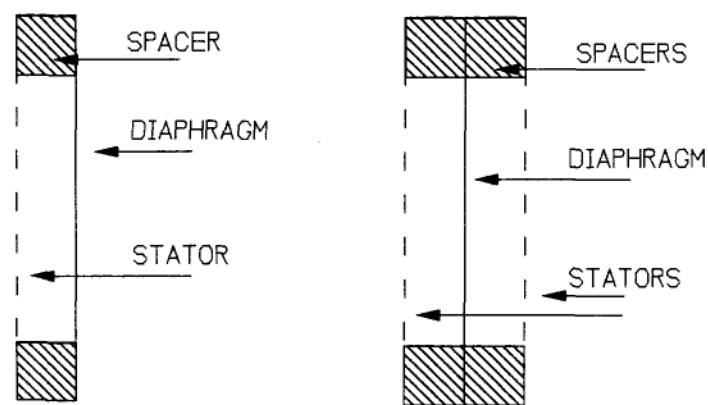

FIGURE 3-1: Single-ended ESL.
**CELLS & PANELS.** When sandwiched together, these three parts comprise an electrostatic **cell** or **panel**. We call an ESL with only one stator **single-ended**. Figure 3-1 is a cross-sectional view of such a cell.